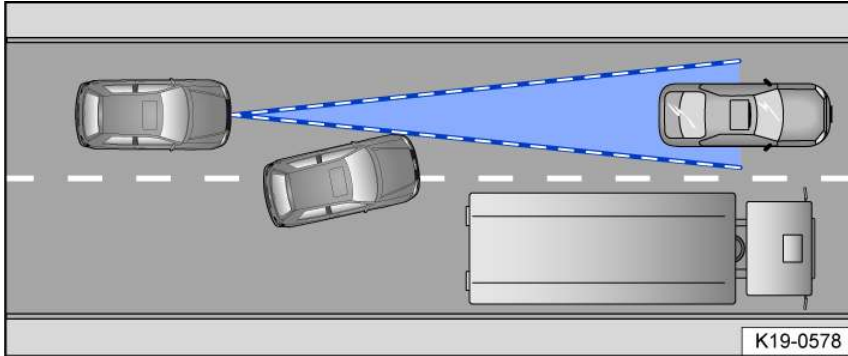

Fig. 106 Changing lanes.
- If vehicles change to your lane close in front of your vehicle fig. 106.